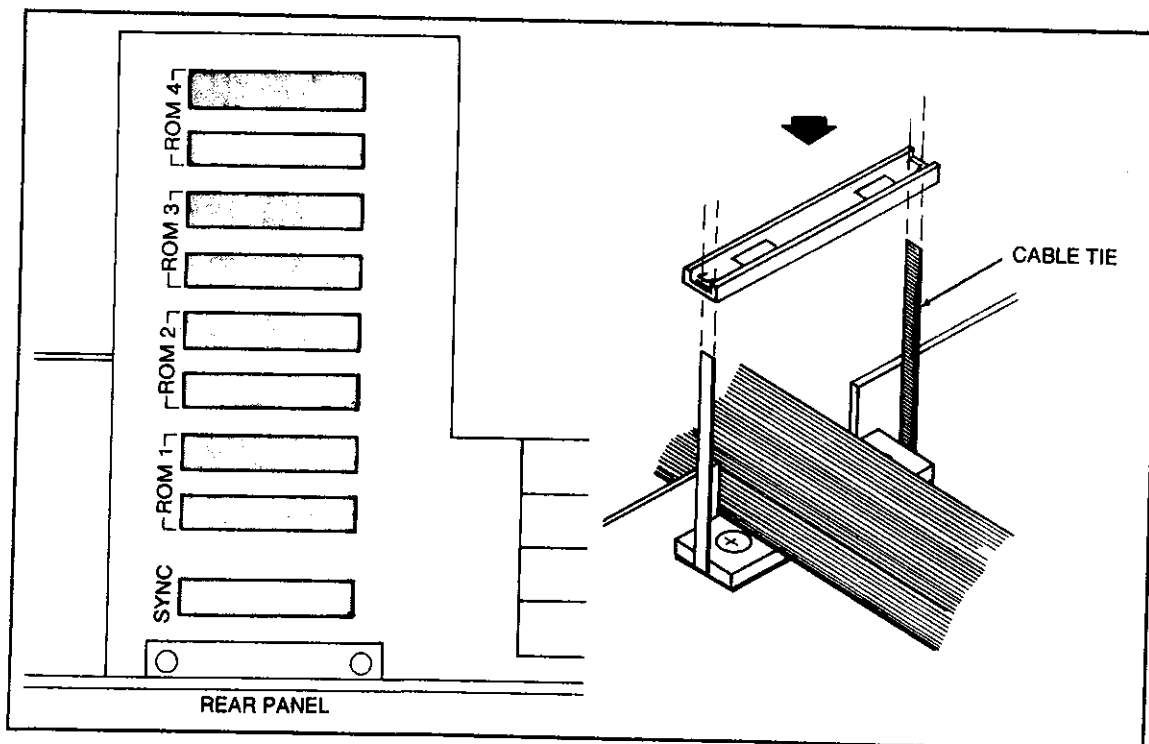

Figure 2-3. Connection of the External Modules to the Interface Pod
1. Plug the Sync Module cable into the connector labeled "SYNC" near the back of the main pca (as shown in Figure 2-3), making sure not to twist or kink the Sync Module cable.
1. Plug the ROM Module(s) into the numbered connectors on the main pca (as shown in Figure 2-3), making sure not to twist or kink the ROM Module cables. If you are using one ROM Module, that module must be plugged into the sockets marked "ROM 1." If you are using two ROM Modules, the modules must be plugged into the sockets "ROM 1" for ROM Module number 1 and "ROM 2" for ROM Module number 2.